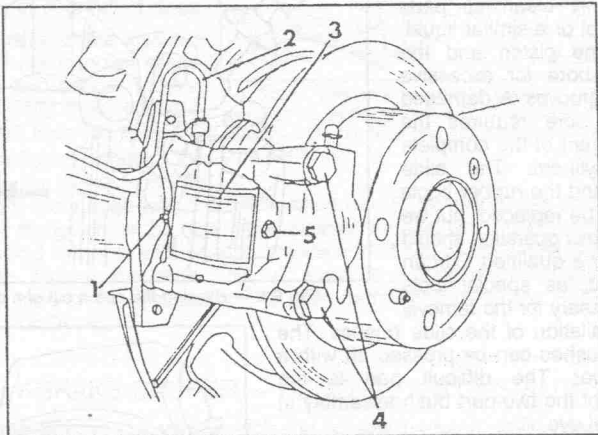

Fig. 9.6. — Details for the removal and installation of the rear brake pads.
- Referring to Fig. 9.6 slacken the nut (1) and remove the covering plate (3) by pulling it straight off the caliper.
Thoroughly clean all visible parts from brake dust, etc. Clean the pistons with petrol and drop some "LHM" fluid onto the pistons. The installation of the brake pads is carried out as follows, referring to Figs. 9.6 and 9.7:
Remove the brake pads as described in the last section and insert the brake pad securing bolt (5) in Fig. 9.6 to keep the two halves of the brake caliper together. Tighten the nut, but not excessively.
Slacken the brake caliper mounting bolts (4) in Fig. 9.6 without removing them from the caliper. Remove the single screw securing the brake disc to the wheel hub and remove the disc. The caliper must be tilted slightly towards the outside and the disc removed at an angle between wheel hub and caliper.
The brake caliper can be removed together with the brake pads, if required. Slacken the bleeder screw in the pressure regulator without removing it fully and set the manual height control lever into the "low" position. Disconnect the brake pipe (2) in Fig. 9.6, unscrew the mounting bolts (4) and take off the caliper.